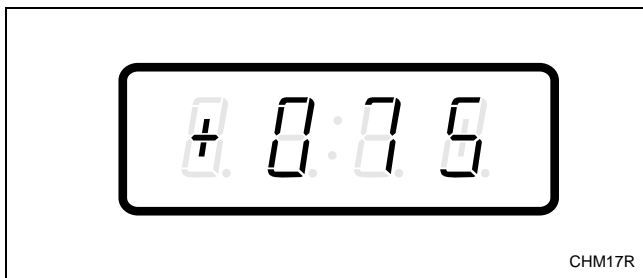

Figure 181
3. Press the DELICATES (+) or the COLD (-) keypad to scroll through the programmable options until “+075” appears in the VFD. Refer to *Figure 181*.